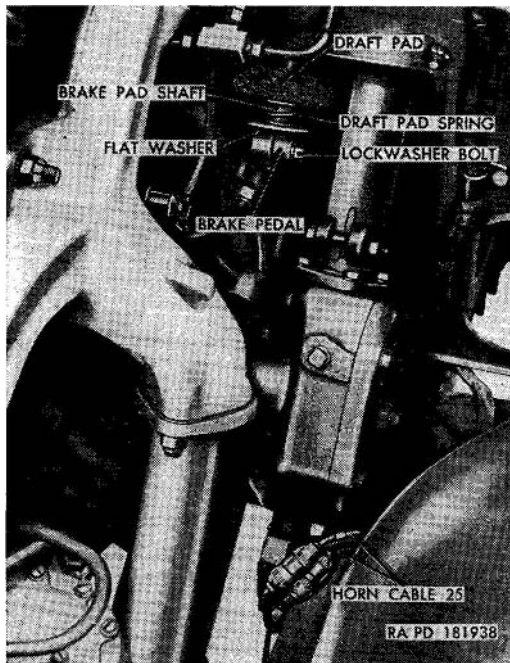
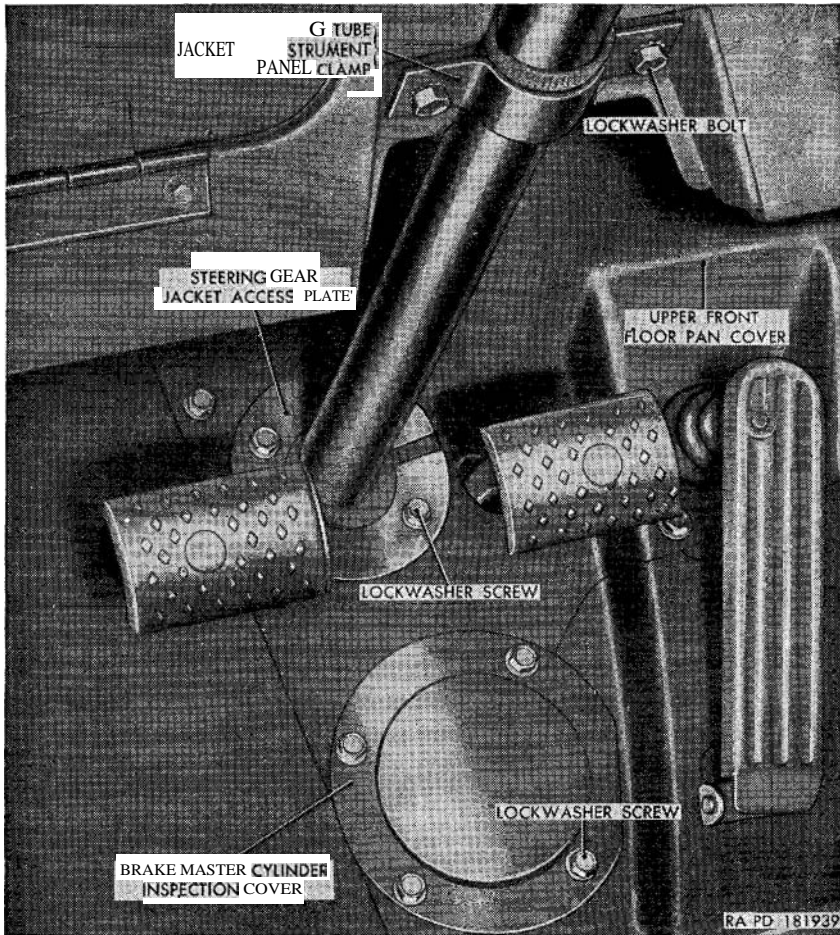
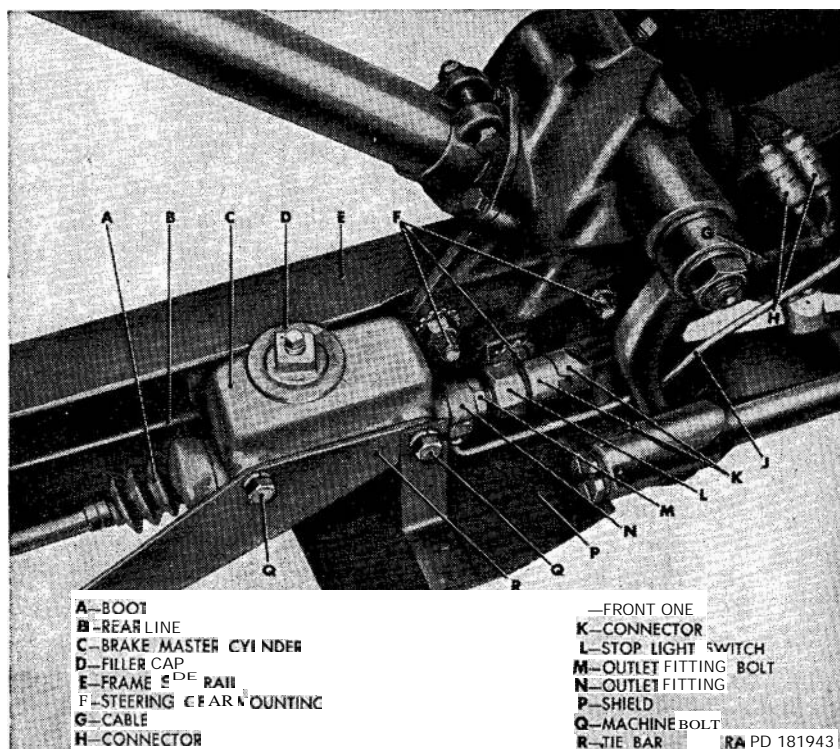

Figure 156. Disconnect points for steering gear removal—engine compartment.
Figure 157. Disconnect points for steering gear removal—driver's compartment.
Figure 161. Brake master cylinder installed—vehicle body removed.
- (1) Removal the steering wheel assembly (par. 229a).
- (2) Disconnect the steering drag link assembly from the Pitman arm (par. 227a(2) ).
- (3) Disconnect the two horn cables 25 at the connectors (II, *fig. 161*).
- (4) Remove the brake master cylinder shield (par. 234b (1) ).
- (5) Remove the lockwasher bolt from the brake pedal and pad assemblies (*fig. 156*) and detach the pad assembly from the pedal.
- (6) Slide the draft pad spring, flat washer, and draft pad (*fig. 156*) off the bottom of the draft pad assembly shaft, and pull the assembly out of the upper front floor pan cover.
- (8) Remove the four lockwasher screws securing the brake master cylinder inspection cover (*fig. 157*) to the upper front floor pan, and remove the cover from the pan.
- (9) Remove the two lockwasher screws securing the steering gear jacket access plate (*fig. 157*) to the body, and remove the plate.
- (10) Remove the 10 lockwasher screws securing the upper front floor pan cover to the body, and lift the cover from the vehicle.
- (11) Remove the three plain nuts, six internal-external-teeth lock washers, and three steering gear mounting bolts (F, *fig. 161*) securing the steering gear and Pitman arm assembly to the vehicle frame.
- (12) While supporting the steering gear with Pitman arm assembly, remove the two plain nuts and two lockwasher bolts from the mounting tube jacket-to-instrument panel clamp (*fig. 157*). Detach the clamp and gasket from the instrument panel.
- (13) Work the steering gear with pitman arm assembly out of the vehicle through the driver's compartment.
- (14) Remove the plain nut and lockwasher from the Pitman shaft. Scribe alinement marks on the Pitman arm and Pitman shaft. Using a wedge-type remover, separate the Pitman arm from the Pitman shaft.
- (1) Position the Pitman arm on the Pitman shaft with the arm scribe marks aligned with the Pitman shaft. Tap the arm onto the shaft and secure with a 3/4-inch lockwasher and 3/4 x 2 plain nut.
- (2) Lower the steering gear with Pitman arm assembly into approximate position through the driver's compartment.
- (3) Aline the mounting tube jacket-to-instrument panel clamp (*fig. 157*) and gasket with the holes in the panel. Attach
- (4) Align the steering gear housing holes with vehicle frame holes. Secure the steering gear to the frame with three  $\frac{7}{16} \times 3$  steering gear mounting bolts (F, fig. 161), six  $\frac{7}{16}$ -inch internal-external-teeth lockwashers, and three  $\frac{3}{4}$ -inch plain nuts. Tighten the nuts in the mounting tube jacket-to-instrument panel clamp.
- (5) Connect the two horn cables 25 (fig. 156) at the connectors at the bottom of the steering gear on the left side of the engine compartment.
- (6) Install the brake master cylinder shield (par. 2340(8)).
- (7) Make certain that the underside of the upper front floor pan cover (fig. 157) edges are coated with permagum seal 7348567. Position the cover in the driver's compartment with the cover holes aligned with the body holes. Secure the cover to the body with ten  $\frac{1}{4} \times \frac{5}{8}$  lockwasher screws.
- (8) Make certain that the underside of the steering gear jacket access plate edges are coated with permagum seal 7348567. Position the plate with the plate holes aligned with the body holes. Secure with two  $\frac{1}{4} \times \frac{3}{8}$  lockwasher screws.
- (9) Make certain that the underside of the brake master cylinder inspection cover edges are coated with permagum seal 7348567. Position the inspection cover on the upper front floor pan cover and secure with four  $\frac{1}{4} \times \frac{5}{8}$  lockwasher screws.
- (10) From the driver's compartment, insert the brake pad assembly shaft through the upper front floor pan cover from the underside of the cover, slip the draft pad (fig. 156), flat washer, and draft pad spring on the shaft. Insert the shaft into the clamp on end of brake pedal and secure with a  $\frac{3}{16} \times 1\frac{1}{4}$  lockwasher bolt.
*Note.* The key letters noted in parentheses are in figure 161, except where other wise indicated.
- (1) Remove the four screws with internal-teeth-lockwashers securing the brake master cylinder inspection cover (fig. 157) to the upper floor pan plate. Remove the cover.
- (2) Remove the filler cap (D) and cap gasket. Fill master cylinder with brake hydraulic fluid to within one-half inch of top (par. 69). Install filler cap and gasket.
- (3) Make certain that the underside edge of the cover is completely coated with permagun seal 7348567 and position cover on the upper floor pan plate with the cover holes aligned with the plate (fig. 157) holes.
- (4) Secure the cover to the plate with four  $\frac{1}{4} \times \frac{5}{8}$  screws with internal-teeth lockwashers.
(b) *Installation.* Position the line assembly (Q) between the master cylinder outlet fitting (N, fig. 161) and the flexible line assembly (front tee-to-master cylinder front line) (Y) and install the nuts at each end of the line. Push the line into the clip (R). Install the master cylinder shield (par. 234c (8) ). Bleed brakes (par. 237) .
(b) *Installation.* Position the line assembly (J) between the outlet fitting (N, fig. 161) and the flexible line assembly (rear tee-to-master cylinder rear line) (H) and install the nuts at each end of the line. Push the line into the three clips (L, M, and N). Install the master cylinder shield assembly (par. 234c(8)). Bleed brakes (par. 237).